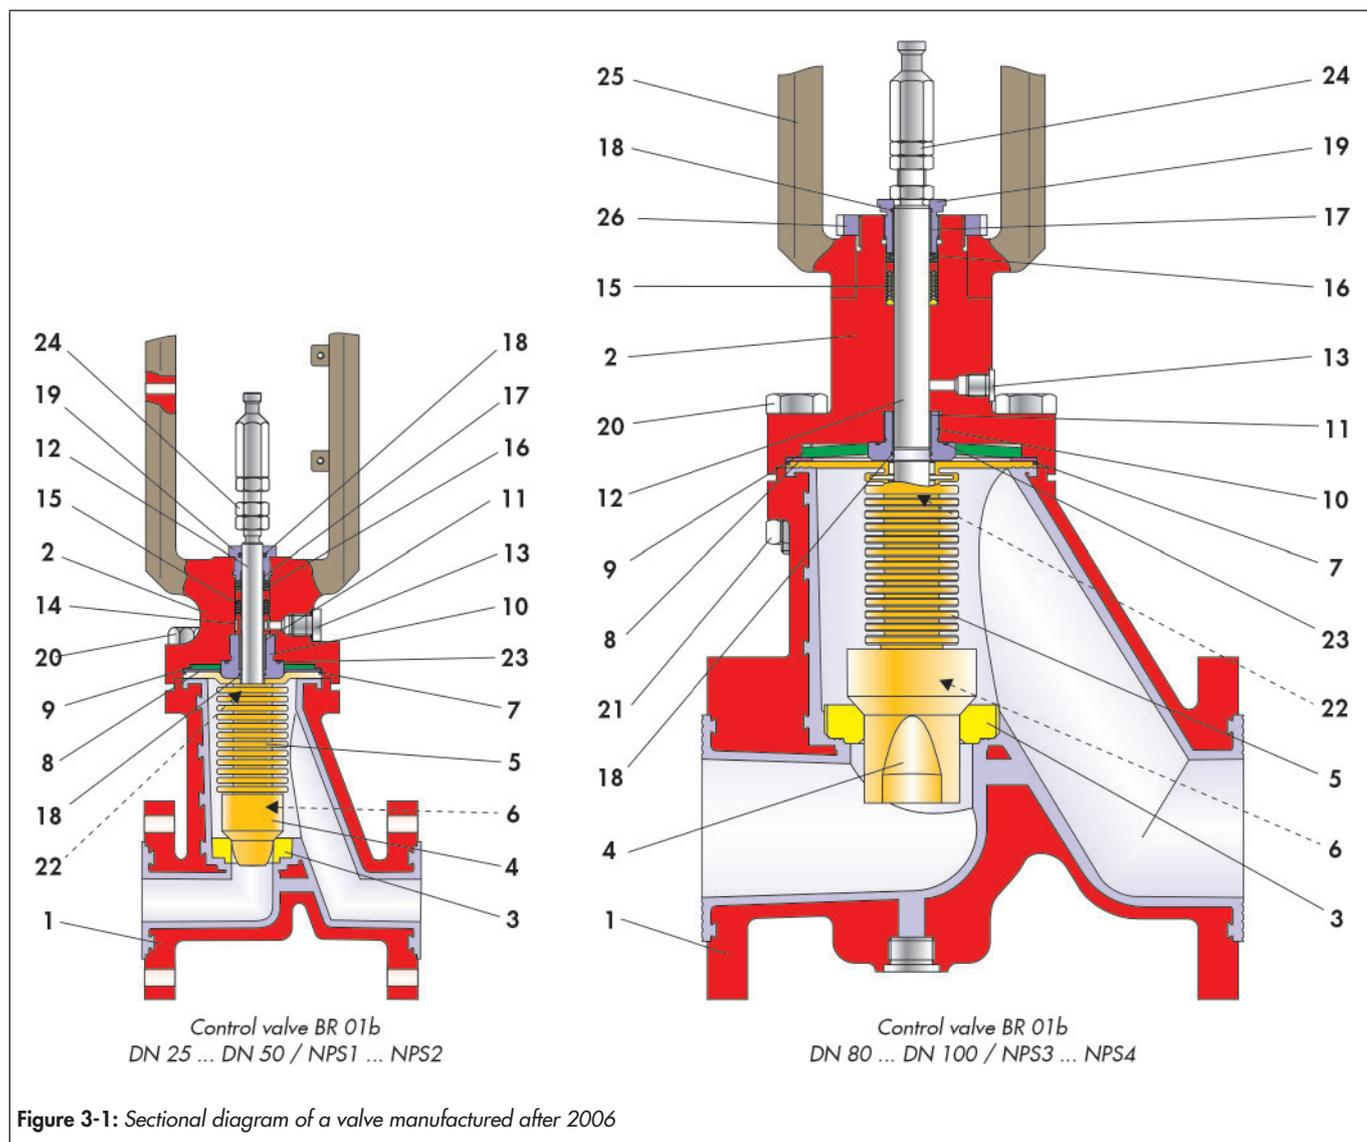

Figure 3-1: Sectional diagram of a valve manufactured after 2006
The position of the plug determines the cross-sectional area between the plug (4) and the seat (3), see Figure 3-1 and Figure 3-3.
- ⇒ Push the plug (4) onto the bellows (5).
- ⇒ Secure the connection between the plug and bellows with a PTFE cord (6) inserted as far as possible. Use a sharp knife to cut off the remaining part of the cord that projects.
- ⇒ Insert the distance bushing (14), V-ring and lock ring of the V-ring packing (15). Arrangement of the V-ring packing, see Figure 3-1.
- ⇒ Insert the set of spring washers (16) into the provided hole. Arrangement of the spring washers, see Figure 3-1.
- ⇒ Insert the o-ring (18) into the inner groove of the stuffing box (19).
- ⇒ Press the upper bearing bushing (17) into the bottom part of the stuffing box (19).
- ⇒ Grease the stuffing box (19) on the thread.
- ⇒ Screw the stuffing box (19) into the upper thread of the bonnet flange (2) so that the outer groove of the stuffing box is still visible.